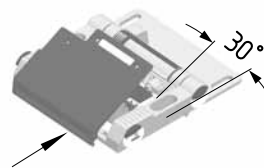
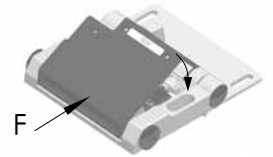

Fig. 2
Fig. 3
5. Firmly push the enclosure cover under an angle of approx. 30° onto the retaining collar (Fig. 2) and simultaneously exercise a downwards pressure (Fig. 3).